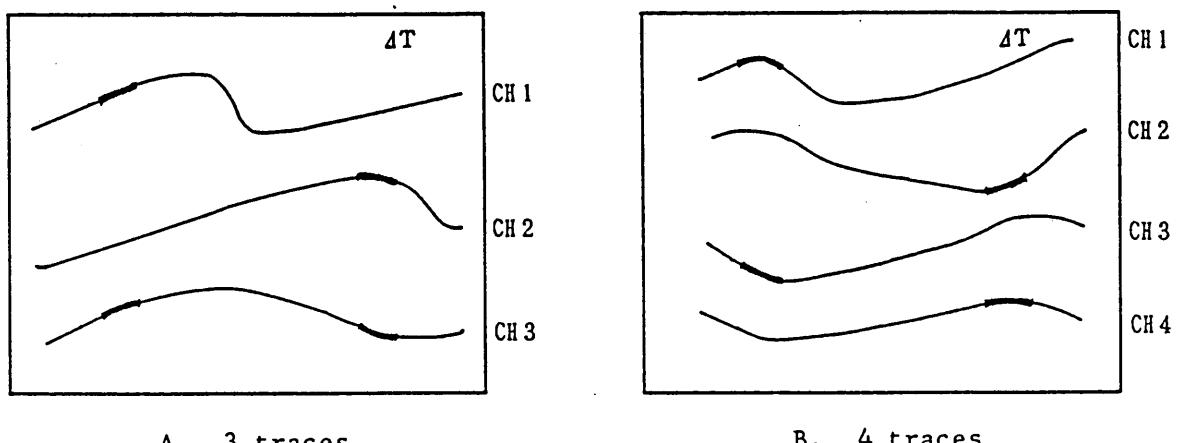

Figure 4-9. Multi-trace Delayed Sweeps
When in the 3-trace mode, one intensity-modulated section is displayed on each of the waveforms of the two leftmost channels as indicated at the VERT MODE ⑩ and two intensity-modulated sections are displayed on the waveform of the remaining channel. For example, when in a 3-trace mode with CH1, CH2 and CH3, one intensity-modulated section is displayed on each of the CH1 and CH2 waveforms and two intensity-modulated sections are displayed on the CH3 waveform. (See Figure 4-9 A.)
When in a 4-trace mode, one intensity-modulated section is displayed on each of the channel waveforms. (See Figure 4-9 B.)